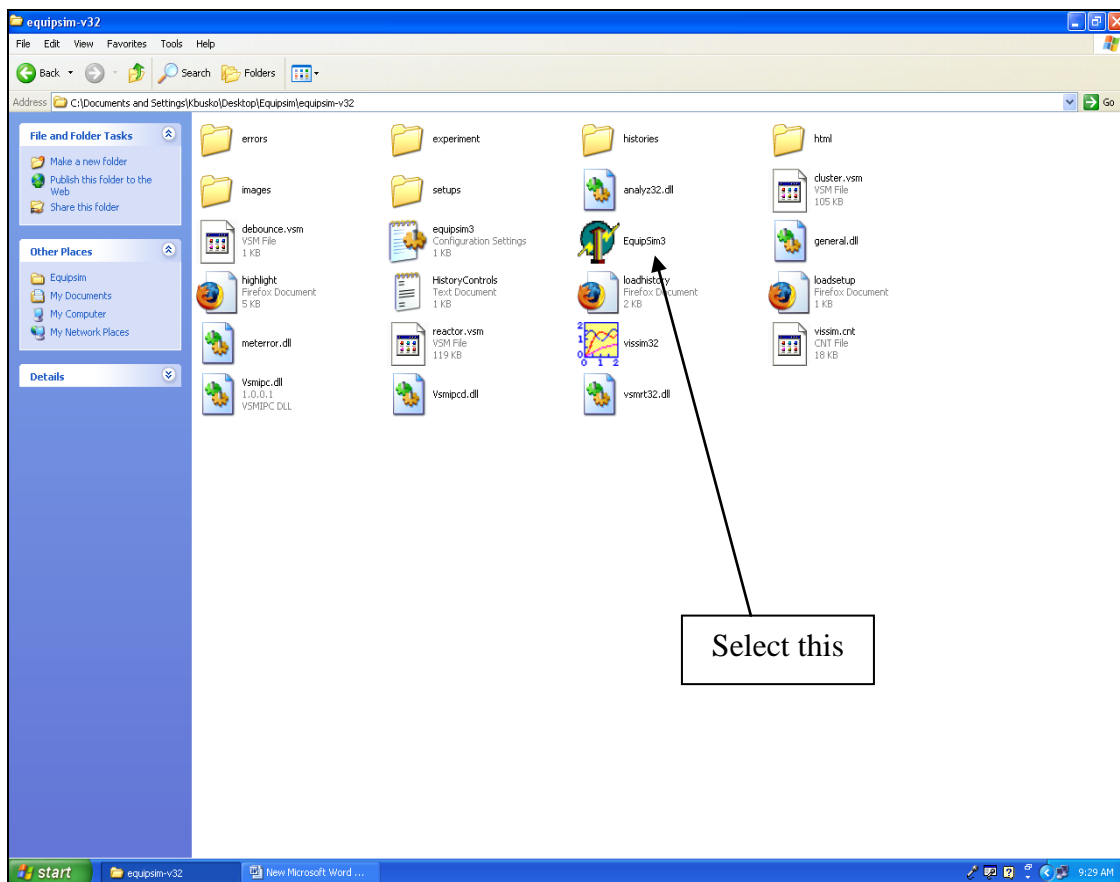

Figure 1 EquipSim (v32) folder content after downloading
- E. Open the equipsim (v32) folder and double click on the EquipSim3 icon, see Figure 1.